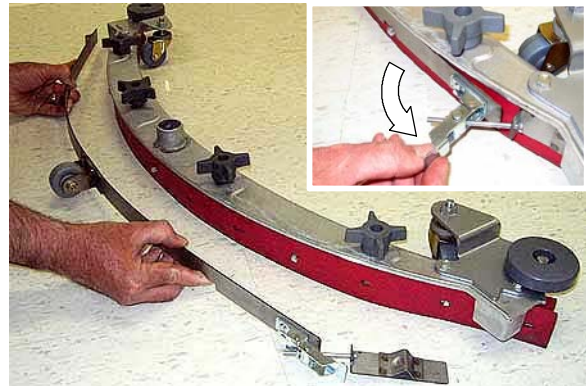

FIG. 78
1. Loosen the band clamp and remove the band from the squeegee assembly (Figure 78).